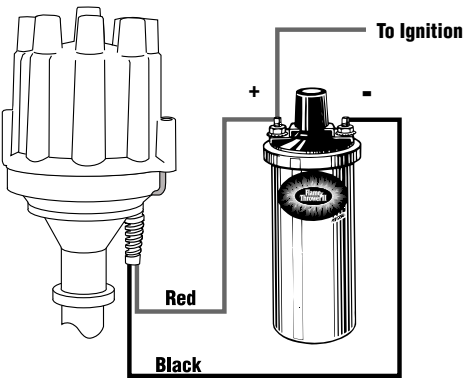

FIGURE 3
2. Attach the black Ignitor II wire to the negative coil terminal. Attach the red Ignitor II wire to the positive coil terminal. (See Figure 3)